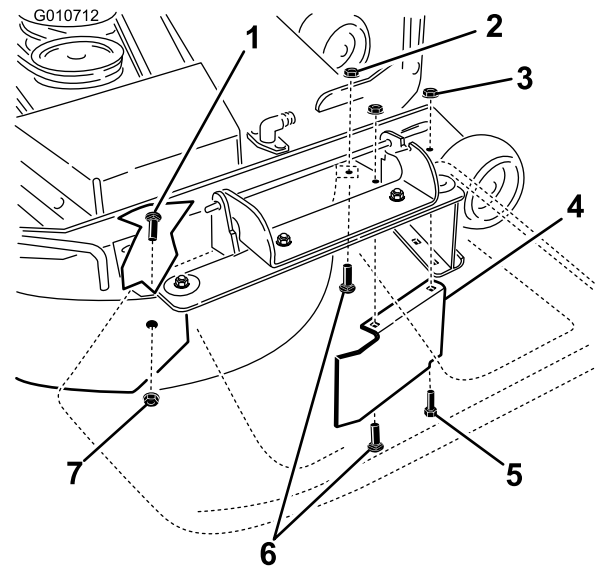

Figure 32
9. Remove the carriage bolt (5/16 x 3/4 inch) and lock nut (5/16 inch) on the rear wall of the mower deck securing the baffle to the deck (Figure 32).
deck as shown in Figure 32. Remove the baffle guard and retain all fasteners.
12. Install the fasteners removed previously at the front holes in the discharge plate and forward hole in the deck (Figure 32).